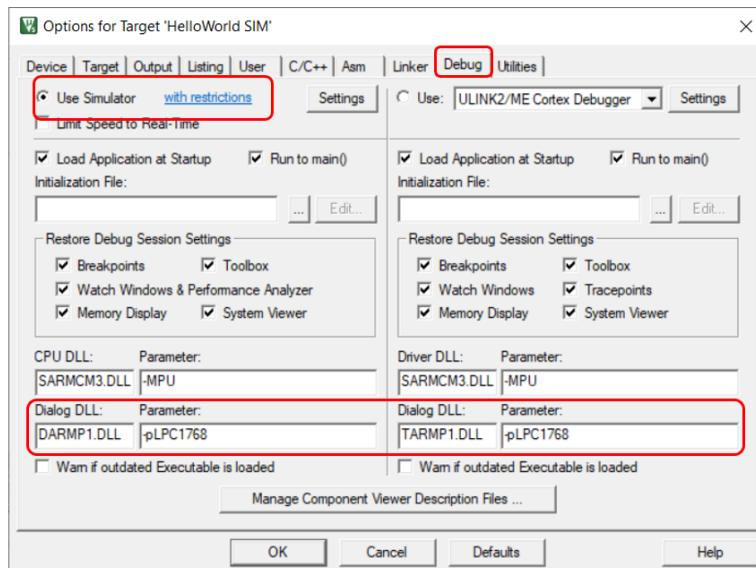

Figure 8.18: Keil IDE: Target Options Debug Tab Configuration
1. Open up the target option window and select “Use Simulator” in the Debug tab and set the Dialog DLL and Parameters as shown Figure 8.18.